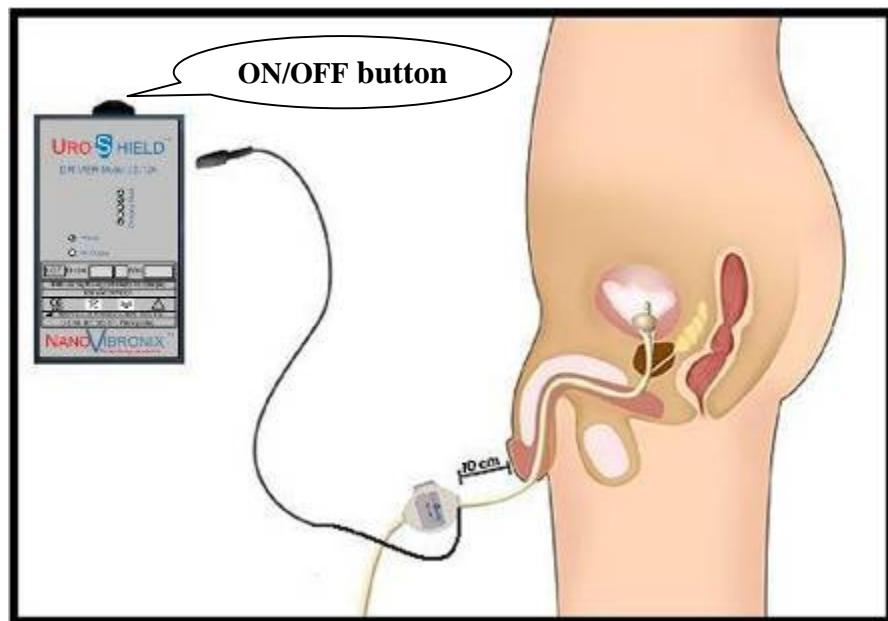

Figure 5: Actuator Electrical Connection
1. Plug the actuator connector into the driver output socket. Ensure that it is fully inserted and secured (Figure 5 below).